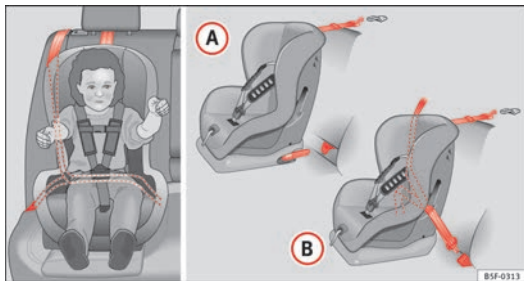

Fig. 33 On the rear seats: possible installations of the child seat.
Figure ⇒ Fig. 33 (A) shows the basic child restraint system mounting using lower retaining rings and the upper retaining strap. Figure ⇒ Fig. 33 (B) shows the child restraint system mounting using the vehicle seat belt.